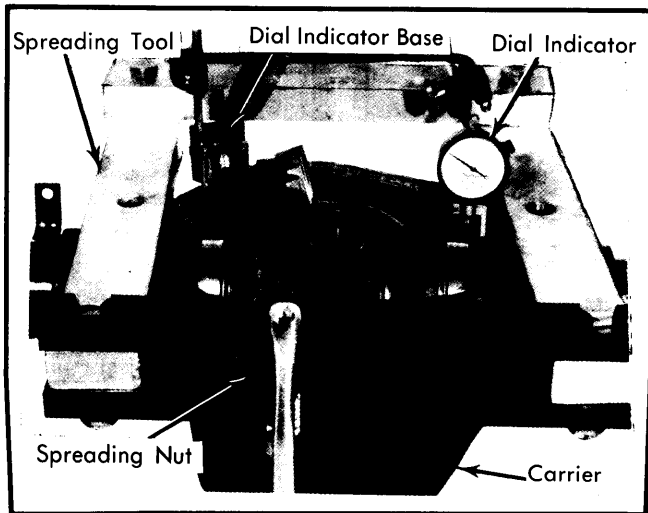

Fig. 4 Spreading Differential Carrier. Mount Spreading Tool and Dial Indicator. Turn Spreading Nut Until Carrier Spread Reaches Maximum of .010".
2) Mount a carrier spreading tool (J-24385-01 & J-24385-15 or equivalent) onto carrier. Position a dial indicator onto tool to measure case spread. See Fig. 4. Spread carrier to a maximum of .010". Remove dial indicator from tool and pry differential from carrier. Note location of bearing cups for reassembly.